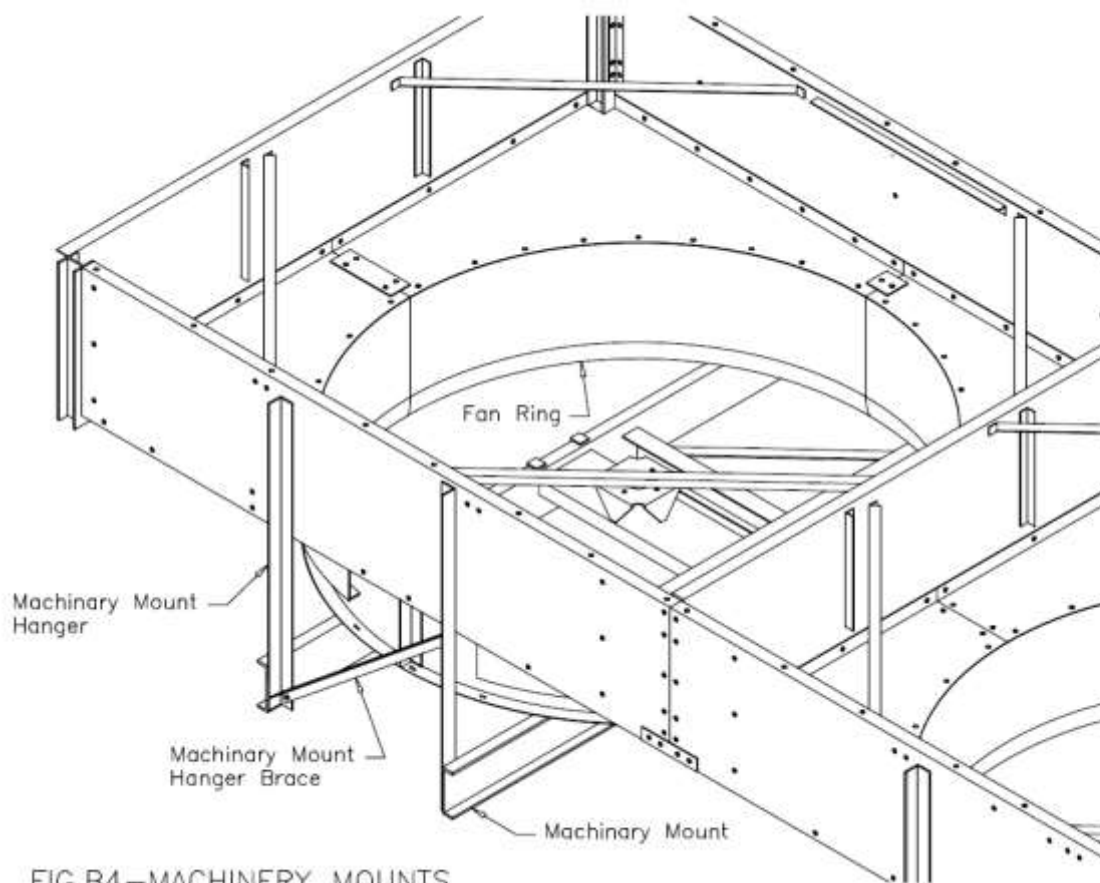

FIG.B4-MACHINERY MOUNTS
5. Attach machinery mount to fan ring. Attach machinery mount hangers to machinery mount and side panels. Attach machinery mount hanger braces, if provided. See Fig.B4.